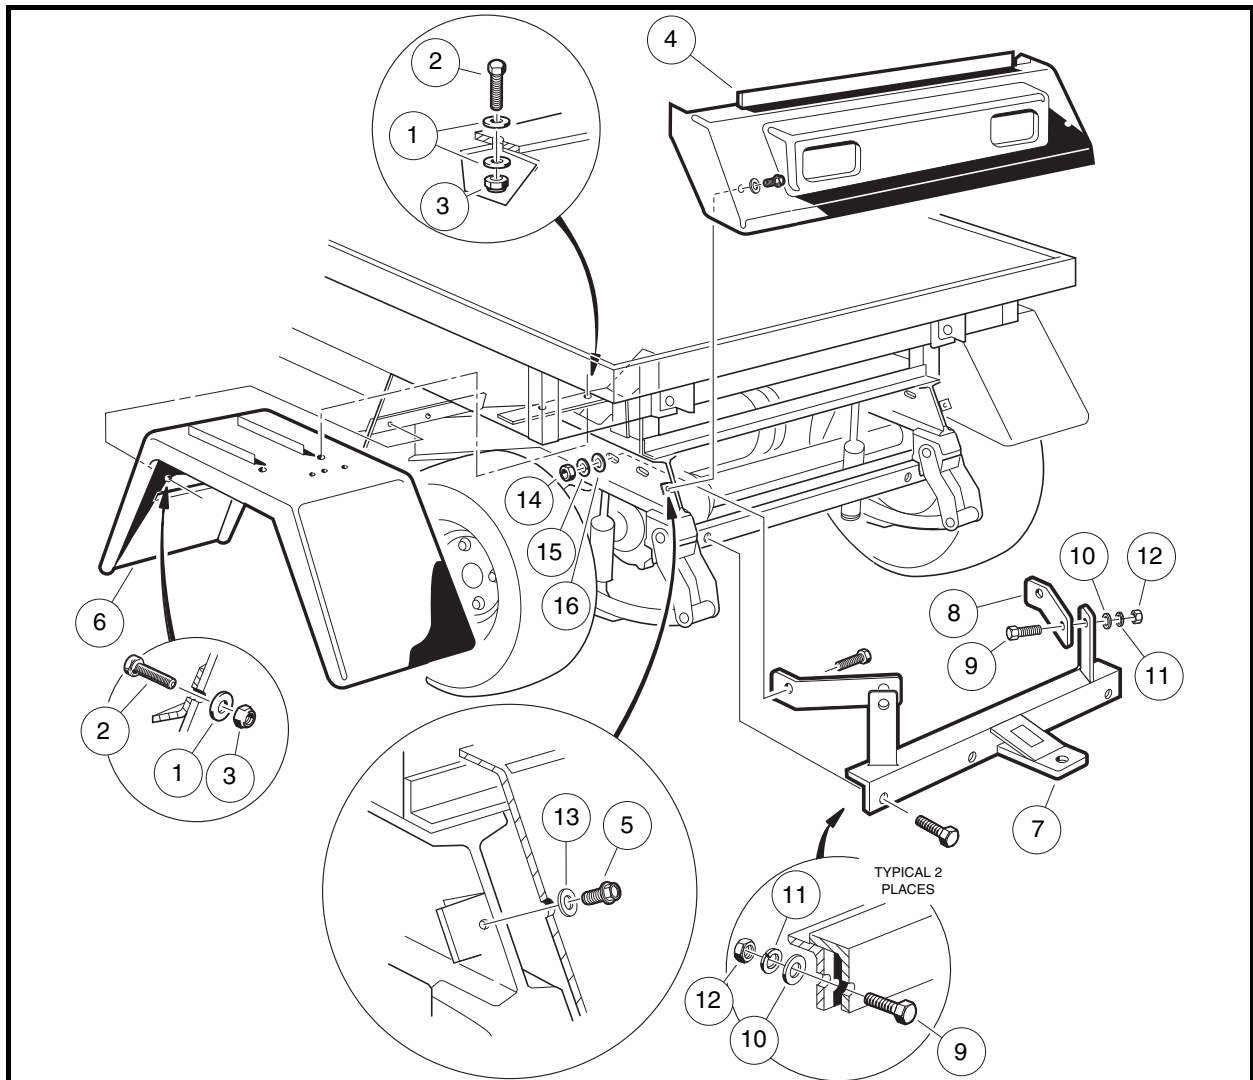
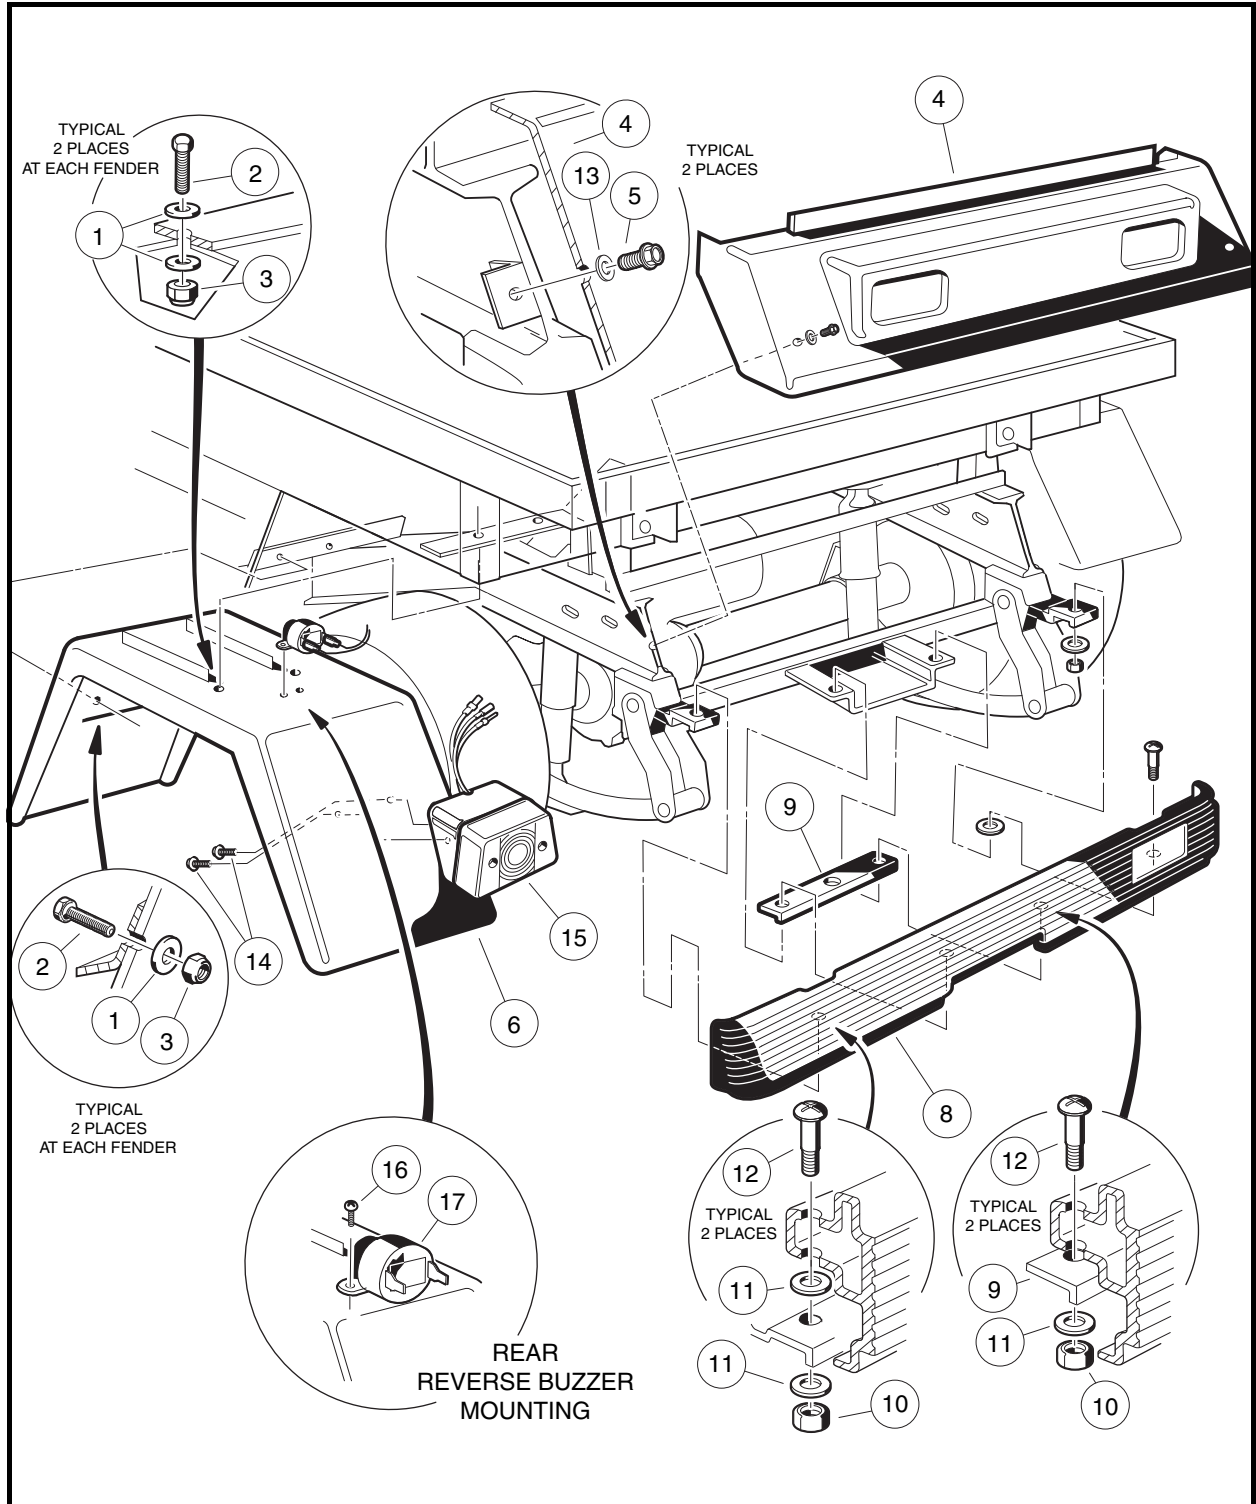

Figure 4-7 Rear Fender, Trailer Hitch (Heavy Duty), and Tailskirt – Turf 1, 2, Carryall 1, 2, and 2 Plus
Figure 4-8 Rear Fender and Tailskirt – Turf 6 and Carryall 6
- 1.1. Remove the two screws (14) that secure taillight (15) to the rear fender (**Figure 4-8, Page 4-16**).
2. Remove two nylon lock nuts (3), flat washers (1), and 1/4 x 1 bolts (2) from front of fender (6) (**Figure 4-7, Page 4-15 or Figure 4-8, Page 4-16**).
3. Remove two nylon lock nuts (3), flat washers (1), and 1/4 x 1 bolts (2) and flat washers (1) from the top of fender (6) (**Figure 4-7, Page 4-15 or Figure 4-8, Page 4-16**).
- 4.1. Remove pan-head screws (16) connecting reverse buzzer (17) to rear fender (6) and disconnect the two wires from the reverse buzzer (**Figure 4-8, Page 4-16**).
5. Remove fender (6) from vehicle (**Figure 4-7, Page 4-15 or Figure 4-8, Page 4-16**).
2. Where the hitch (7) is mounted to frame, remove two nuts (12), lock washers (11), flat washers (10), and bolts (9) (**Figure 4-7, Page 4-15**).
3. Where the hitch (7) is mounted to hitch brace (8), remove the nut (12), lock washer (11), flat washer (10), and bolt (9).
4. Remove hitch (7) from vehicle.
1. Install trailer hitch (7) in the reverse order of removal (**Figure 4-7, Page 4-15**). Tighten hardware to 15 ft-lb (20.3 N·m).
1. Remove two thread-forming screws (5) and flat washers (13) from tailskirt (4) and lift tailskirt from vehicle frame (**Figure 4-7, Page 4-15 or Figure 4-8, Page 4-16**).
1. Insert upper edge of tailskirt (4) under, and in front of, back edge of rear body (**Figure 4-7, Page 4-15 or Figure 4-8, Page 4-16**).
2. Align holes in tailskirt (4) with holes in vehicle frame. Position tailskirt flush against frame.
3. Install two thread-forming screws (5) and flat washers (13) in tailskirt and tighten to 80 in-lb (9.0 N·m).
1. Remove four lock nuts (10), six flat washers (11), four phillips bolts (12), and mounting plate (9) from rear bumper (8) (**Figure 4-8, Page 4-16**).
1. Install the rear bumper in the reverse order of removal. Tighten nuts to 65 in-lb (7.3 N·m) (**Figure 4-8, Page 4-16**).